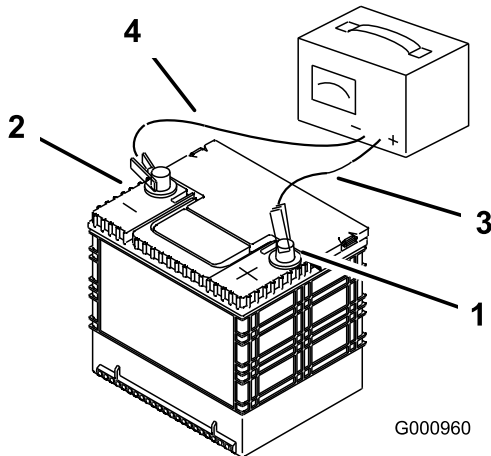

Figure 52
- When the battery is fully charged, unplug the charger from the electrical outlet, and disconnect the charger leads from the battery posts (Figure 52).